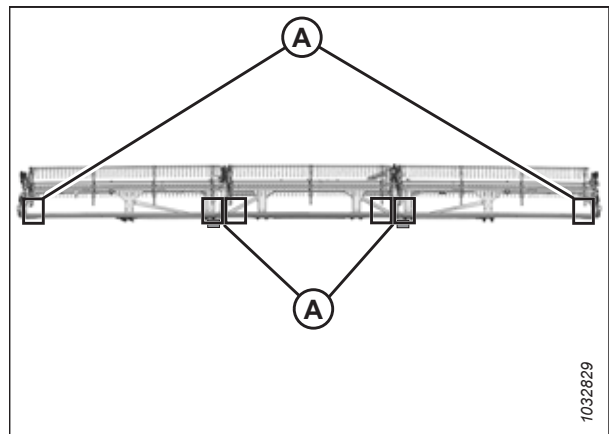

Figure 6.30: FlexDraper® Measurement Locations – Triple Reel
- Triple-reel headers: Figure 6.30, page 272